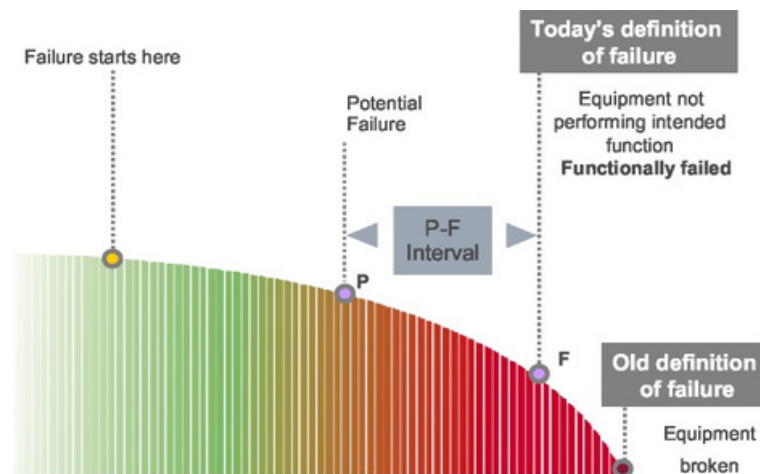

Figure 7.2.6 PF Curve
Reliability studies over the last 30 years say that 80% of asset failures are random. This is quite a departure from what we would expect, yet research has proven that for most components, there is no correlation between age and how likely they are to fail. However, with the right practices and technologies, you can detect early signs of random failure by monitoring the health indicators to determine whether asset health is degrading. The P-F interval is the time between the detection of a potential failure (P) and functional failure (F), as demonstrated in the diagram below, Figure 7.2.6. Proactive corrective action is scheduled before functional failure occurs.